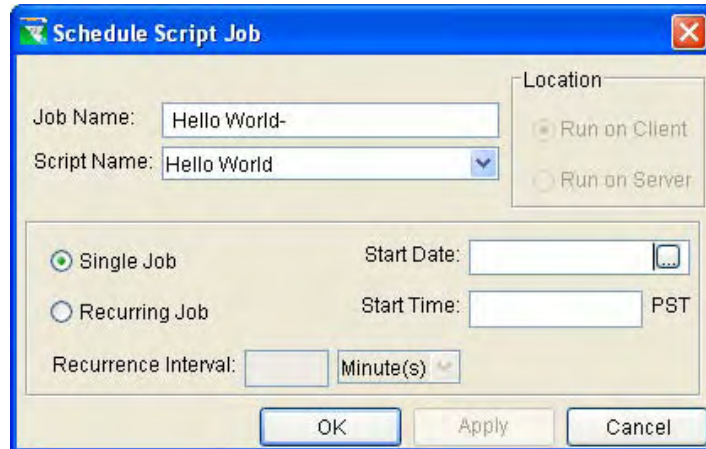

Figure 14.82 Schedule Script Job
6. The **Schedule Script Job** option from the **Script** menu (Figure 14.82) allows for automatically running a script as a Single Job or as a Recurring Job.